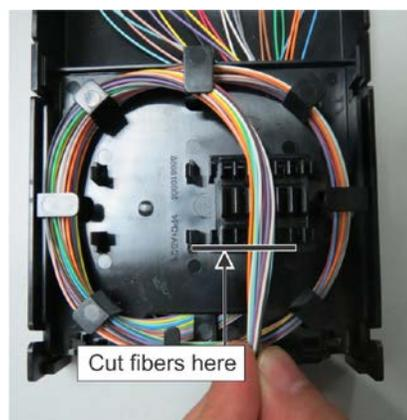

Figure 3. Cut Fiber for Splicing
3. Uncoil fibers first and then spool them clockwise in cassette to determine required length for splicing, then cut at location marked for 2nd loop (Figure 3).